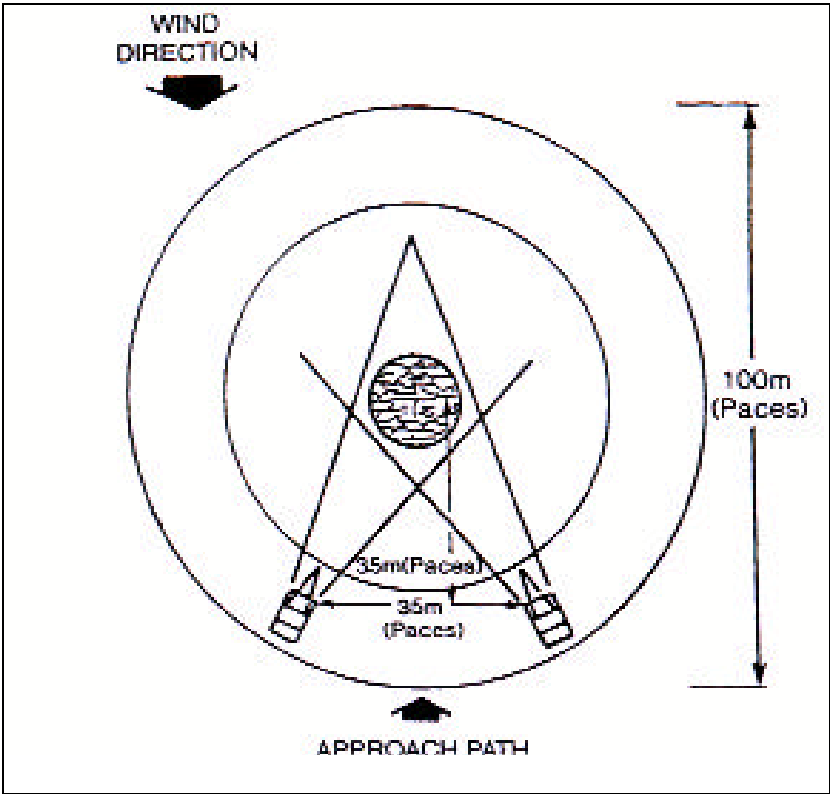

Fig 15-2-4 Emergency Method of Marking a Landing Point
14. **Emergency Method.** Two light vehicles (1/4 ton or low silhouette) are placed 35 m apart and 35 m downwind of the centre of the landing point with their headlight beams intersecting at the centre of the landing point (Fig 15-2-4).